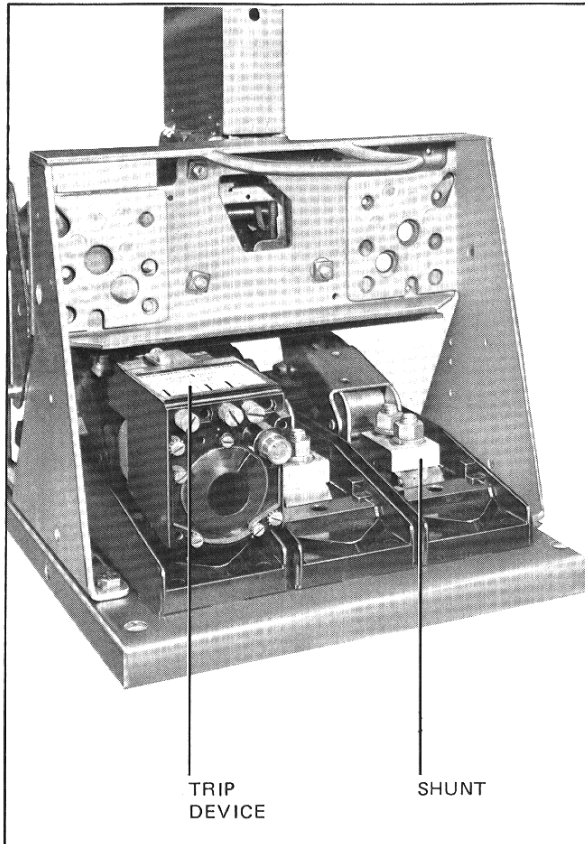

Fig. 8 Removal of Electro-Mechanical Trip Devices
- C. Remove the three electro-mechanical trip units and replace with three copper jumpers using .5-13 x 2.25 bolts, see Fig. 8. On electrically operated breakers, the control relay must be removed before the left trip unit is removed. Replace the control relay after the shunt is installed. The existing barriers between the pole units can remain in place.
- C. Remove the three electro-mechanical trip units and replace with three copper jumpers using .5-13 x 3.0 © bolts, Fig. 8.